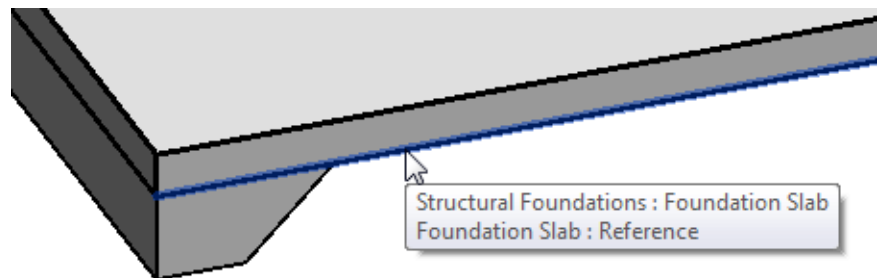

Figure 7–39
4. Select the edges of the slab or floor where you want to apply the slab edge as shown in Figure 7–39. You can use <Tab> to highlight and select all sides of the slab.